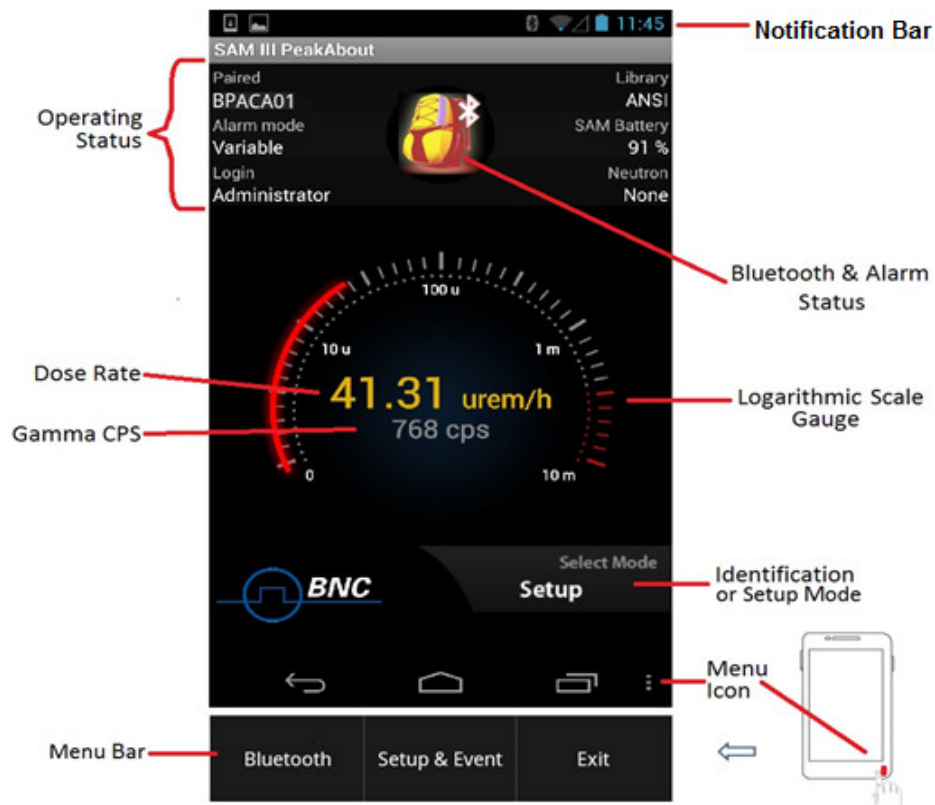

Figure 4.15. Radiation measurement example
1. On the home screen, touch the **Select Mode** area to the lower right of the gauge to enter Identification mode (Figure 4.15).